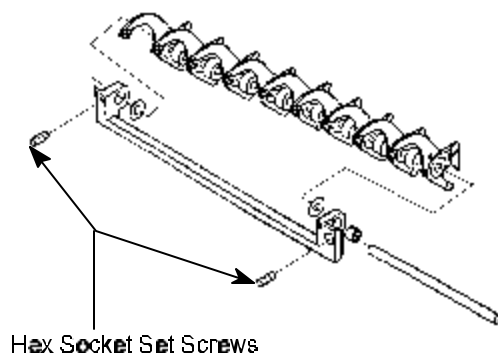

Figure 3
5. **Using** a 2 mm Allen Wrench, **loosen** two hex socket set screws. See Figure 3.